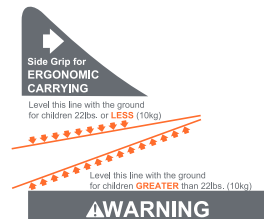

Fig. 52-1
2. Safety Seat without Base: Check that the Safety Seat is level side to side on the vehicle seat. Check the Seat Angle Indicator that matches the weight of your child (Fig. 52-1).